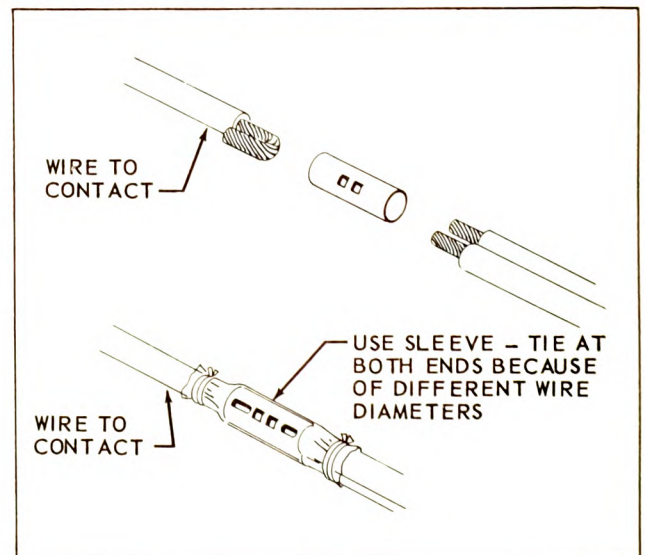

Figure 3-75. Permanent Splice for Terminating Two Wires at One Contact
b. If both wires cannot fit into contact solder cup, use permanent splice to join both wires to a third wire which can fit into solder cup. See Section V, paragraph 5-55 for splicing procedure and Figure 3-75 for illustration of this connection.